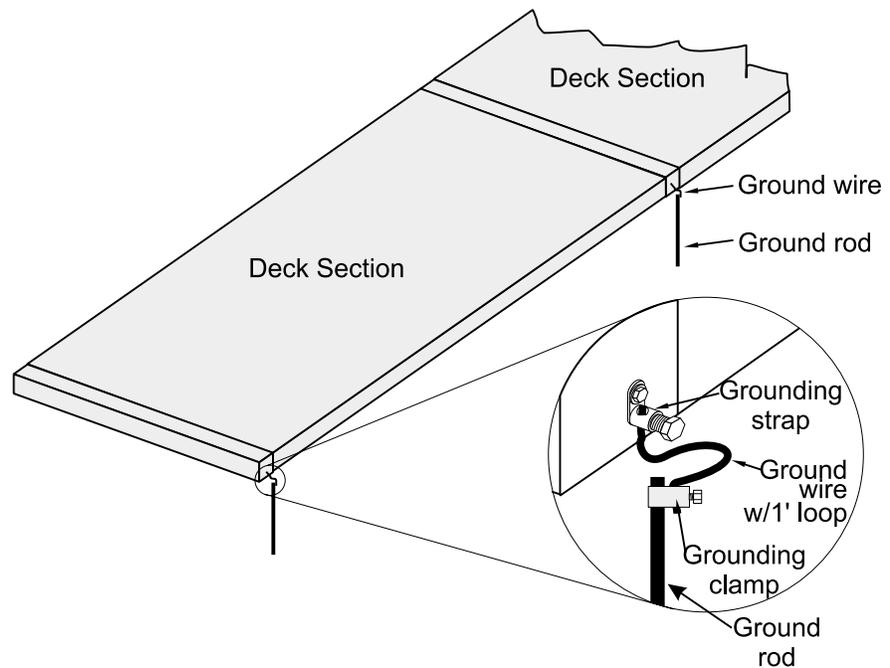

Figure 7
18. Install the ground straps using the hardware provided. Refer to Figure 7. One ground strap must be installed and connected to each section of the scale system. If the scale is installed in a pit, the ground strap must be installed towards the inside rather than towards the outside of the scale. This is required because the ground rod is installed inside the pit rather than beside the foundation. The ground rod should be an eight foot long, 5/8" dia. copper or zinc clad, steel rod.